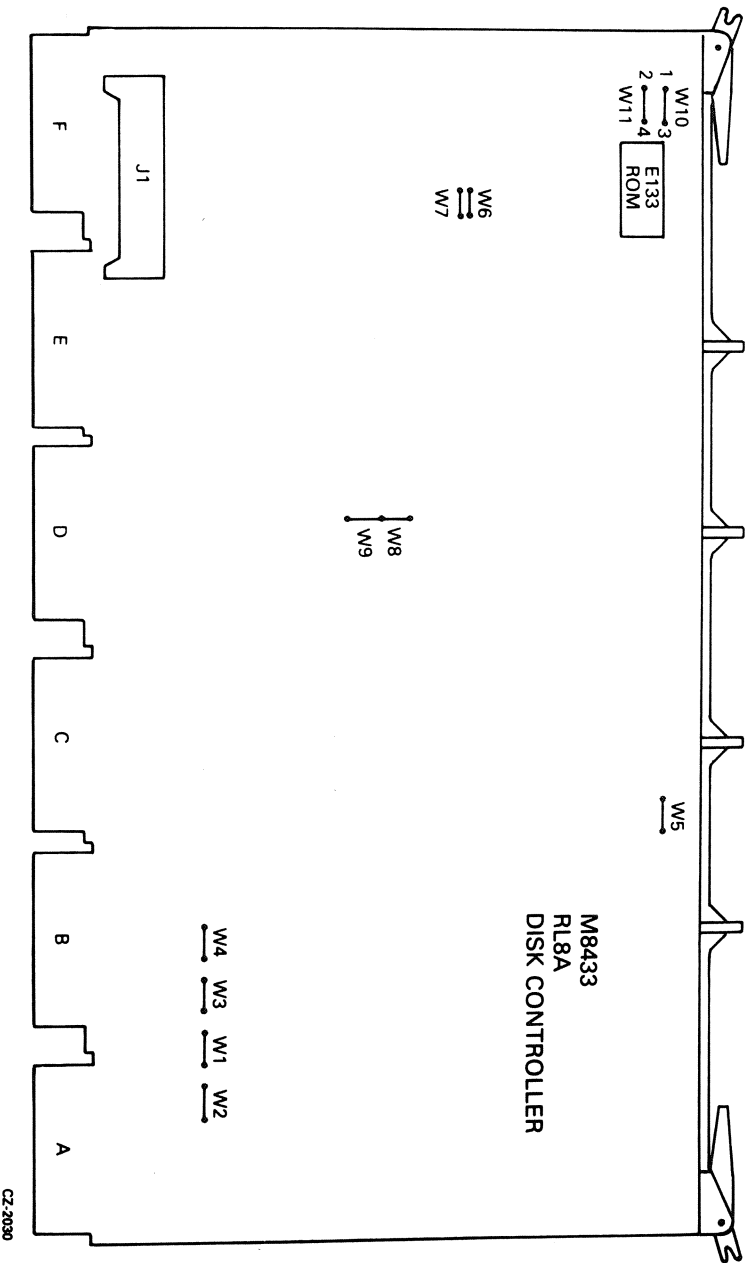

Figure 2-21 RL8A Jumpers
1. Remove the M8433 module (see Figure 2-21) and interface cable (BC80J-20) from the shipping container and inspect them for physical damage.
- Verify the proper jumper configuration for device codes and priority (Figure 2-21).